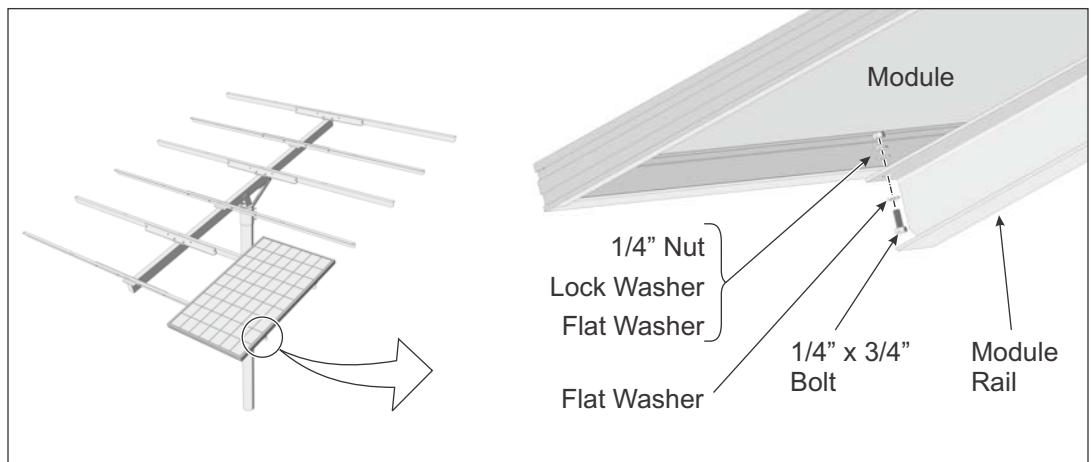

Figure 5-1: Installing PV Modules to Module Rails
- A. Place the southern most PV Module in place on the Module Rails. Align the mounting holes and secure with 1/4" x 3/4" bolts and hardware; each Module has four attachment points. Finger-tighten for now. (See Figure 5-1)